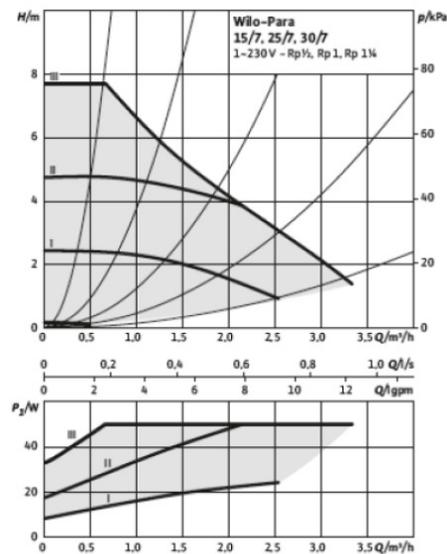

Figure 66 - Pump performance - Constant speeds I, II and III
- Select pump curve (I, II e III - Figure 66) within the control mode.